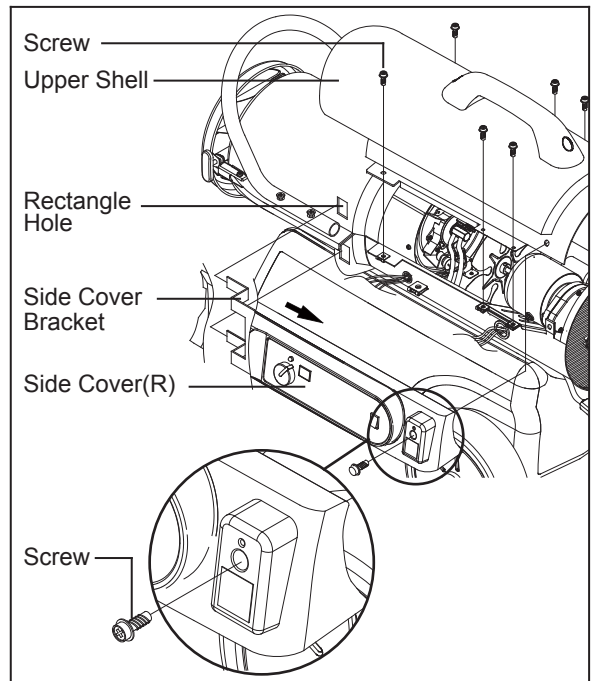

Figure 13. Upper Shell Removal.
- Remove Screw that secure Side Cover as shown in Figure 13.
- Side Cover(L) in opposite of Side Cover(R) Separates by same method. (IH125000/IH170000 Models Only.)
- Remove 4 Screws along each side of heater using medium phillips screwdriver. These Screws attach Upper Rear and Lower shells together. (See Figure 13) (IH75000 Model Only.)
- Remove Upper Shell.(See Figure 13)